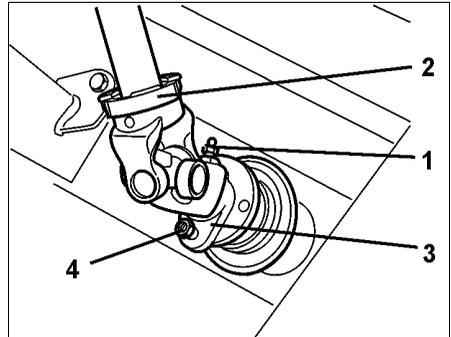

Fig. 60
- The separately supplied bolts 8 x 30, DIN 931, 8.8 are **exchange bolts** (Fig. 60/4) for fixing the PTO shaft yoke on the flange of the gearbox input shaft. Always apply grease when fitting the PTO shaft to the gearbox input shaft.